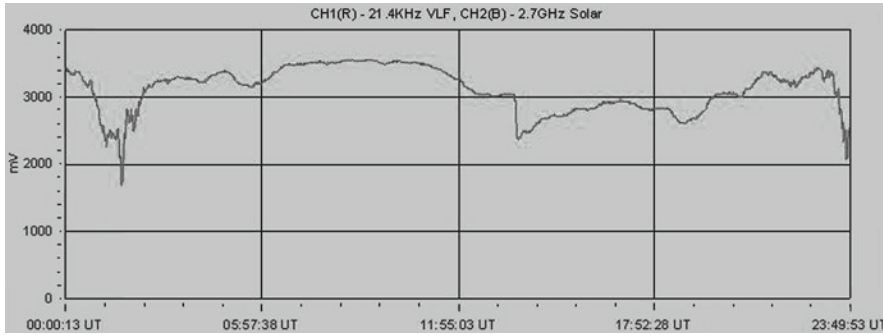

**Fig. 9.5.** VLF plot of five stations plus the noise background for July 17, 2009. This is the raw data showing lots of short period noise in the traces.
Figure 9.5 shows raw data exported via a text file to Microsoft Excel and plotted. This is data that was gathered on July 17, 2009. The raw data is very noisy and confused. Figure 9.6 shows the result of averaging samples over a 5-min period.
**Fig. 9.6.** The same data as Fig. 9.5 but averaged over 5-min intervals. Note the two channels that switch on and off during this period. There is a significant dip in one trace, but this is not seen on the others, so it is not likely to be a solar event.